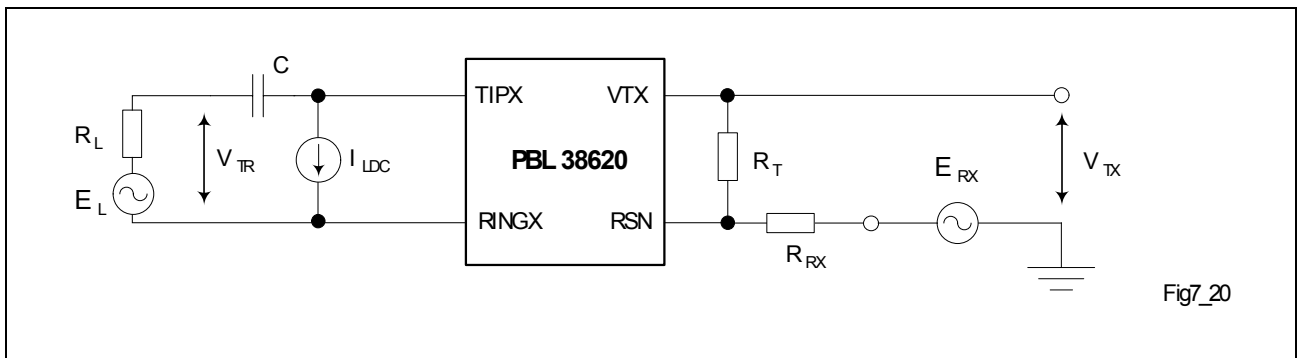

Figure 7 Frequency Response, Insertion Loss, Gain Tracking
- 8) The two-wire idle noise is specified with the port terminated in 600 Ω (R_L), and with the four-wire receive port grounded ($E_{RX} = 0$; see Figure 7). The four-wire idle noise at V_{TX} is specified with the two-wire port terminated in 600 Ω (R_L). The noise specification is referenced to a 600 Ω programmed two-wire impedance level at V_{TX} . The four-wire receive port is grounded ($E_{RX} = 0$).